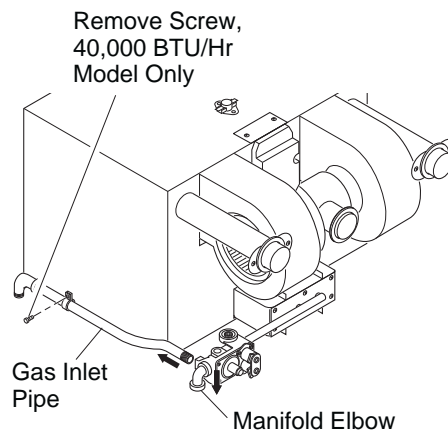

Figure 12 - Disconnecting Gas Inlet Pipe (40,000 BTU/Hr Model Shown)
6. Disconnect gas inlet pipe from 3/8" manifold elbow. Turn gas inlet pipe counterclockwise to disconnect (see Figure 12).
7. Rotate the 3/8" manifold elbow 90° so the opening is pointing downward (see Figure 12).